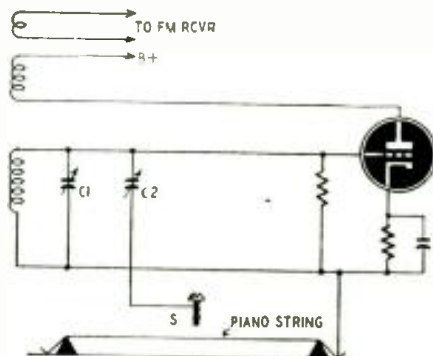
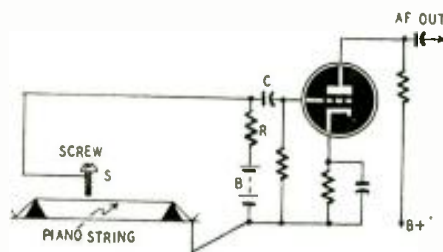

Fig. 2—One method of using FM for piano.
Fig. 1—Older pianos used polarizing voltage.
The new records differ from conventional ones in two major respects: First, they are recorded at 33 1/3 r.p.m. (standard broadcast transcription speed) instead of 78 r.p.m. Second, the number of grooves per inch is from 224 to 300, compared with about 90 in conventional records. This means that the groove width is approximately one-third that of ordinary phonograph records. That is shown clearly in the two photomicrographs Figs. 1 and 2. Fig. 1 shows a microscopic enlargement of a section of the new disc, compared with an ordinary disc in Fig. 2.
Fig. 1, left; Fig. 2, right—Photomicrographs of ordinary and Microgroove record section. Owing to variations in records, the ratio is nearer 2:1 than the more usual 3:1.
Fig. 2 is the system described in the Merrill article. It shows how the string vibration can be used to frequency-modulate a carrier. The tube is connected as an r.f. oscillator, tuned by C1 and the coil. Across C1 are the series capacitors C2 and S, again our string (or reed) and pickup screw.
In Fig. 2 C1 tunes the oscillator to its resting frequency. C2 is adjusted so that the vibrating string will produce the desired FM deviation. If C2 is large with respect to the capacitance of S, the effect of variations in S will be large, and vice versa.
The principle illustrated in Fig. 2 was used by the writer to build an electronic reed organ. Instead of the piano strings, the vibrating parts are organ reeds. In contrast to the d.c. electrostatic system of Fig. 1, no high polarizing voltage is needed at the pickup screws. The insulation resistance between pickup screws and ground need not be high, so humidity and stray dust particles will have no effect. The unit has outstanding organ tone and full bass response. It is so simple and satisfactory that electronic music enthusiasts will be able to build it without difficulty.
**A**N OLD and well-known method of amplifying the sound of string or reed instruments is shown in Fig. 1. Several articles illustrating the method have appeared in RADIO-CRAFT. Among them are "Tone-Controlled Electronic Piano" by Bretsfelder, January, 1938 and "Electronic Organ" by Allan, April, 1941. "Non-Radio Uses for FM" by Merrill, April, 1942, described a different system which was used to build the FM organ described in this article.
changes in varying plate current. If the plate circuit is tuned by the pickup screws instead of the grid circuit (as in Fig. 2), 60-cycle hum is reduced by the tube's amplification factor.